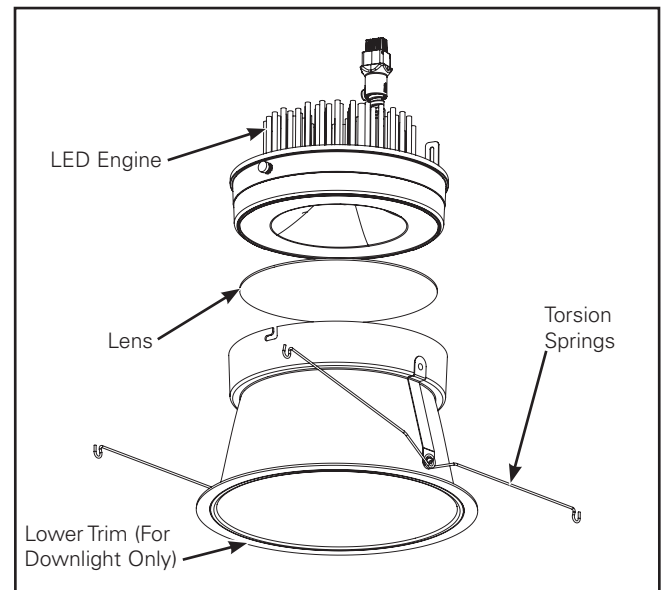

Figure 4. Trim Ring Lower Trim Assembly
1. Remove reflector from protective packaging. Remove LED engine from protective packaging. (Figure 4.)